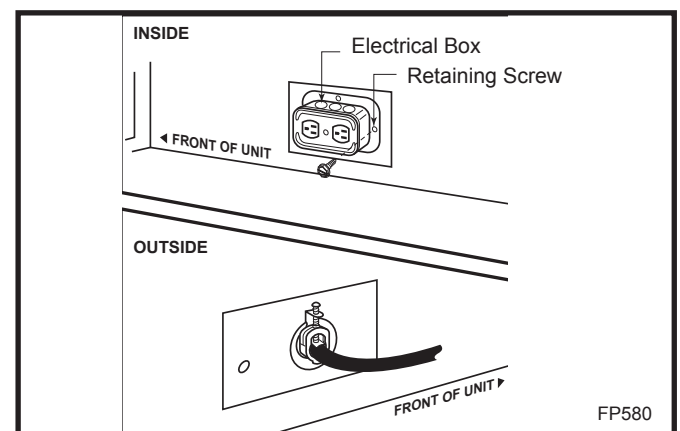

Fig. 8 EB-1 receptacle.
2. The gas control inlet is 3/8" NPT. typical installation layout for rigid pipe is shown in Figure 8.
1. Unscrew retaining screw from EB-1 base plate (Fig. 8) and remove the EB-1 assembly from the appliance.
4. Feed the supply line in through the EB-1 opening in the side of the appliance and then through the back of the EB-1 assembly. (Fig. 8)